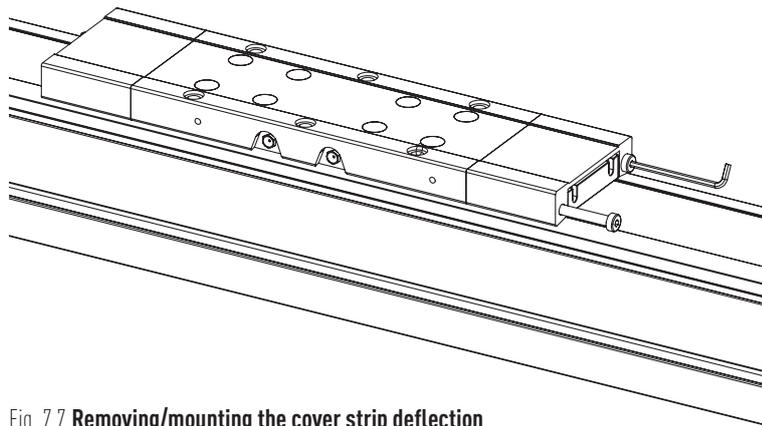

Fig. 7.7 Removing/mounting the cover strip deflection
- ▶ Undo the cover strip deflection screws. Remove the cover strip deflection from both ends of all carriages (see Fig. 7.7).